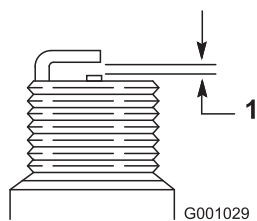

Figure 46
4. Set the gap between the electrodes on a new spark plug at 0.030 inch (0.76 mm) (Figure 46).